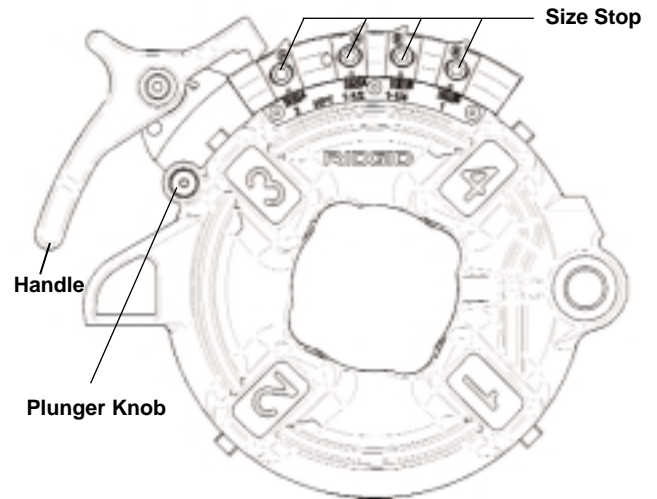

Figure 13 – Semi-Automatic Die Head
**Semi-Automatic Die Head (Figure 13) –** When the end of the pipe being threaded is flush with the end of the Number 1 Die, hit the handle to release the dies from the pipe.
The Semi-Automatic Die Head (Figure 13) for right hand threads requires four sets of dies to thread pipe ranging from 1/8" through 2". One set of dies is required for each of the following size ranges: (1/8", (1/4" and 3/8"), (1/2" and 3/4") and (1" through 2"). Bolt threading requires a separate set of dies for each bolt size.
(Figure 13 – Model 816/817 Die Head) against the plunger knob (as shown).